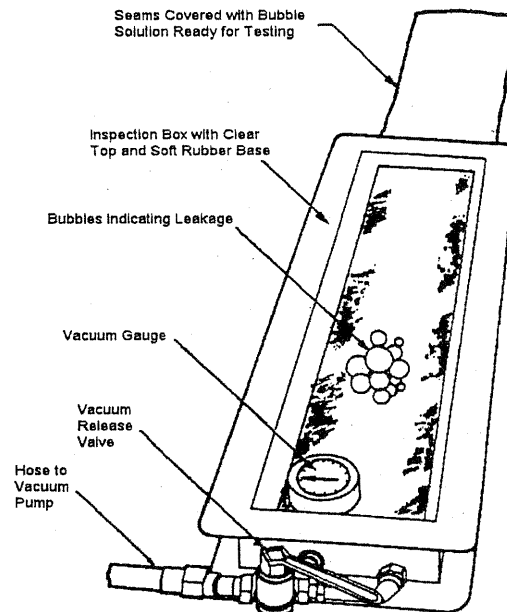

FIG. 2 Vacuum Box
9.4 *Vacuum Technique* – Place a vacuum box (see Fig. 2) over the bubble test fluid. In testing equipment, such as storage tank floors and roofs, place the vacuum box over a section of the weld seam and evacuate to 3 psi (20.68 kPa) (or what the applicable standard requires) and hold for a minimum time of 15 seconds.